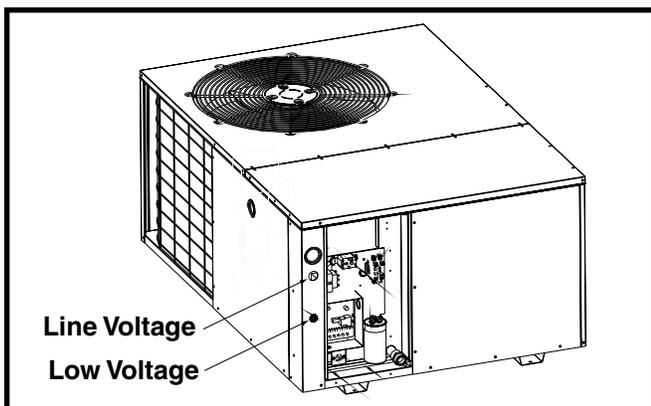

Figure 7. Power Entry
power wiring hole (Figure 7, page 7). Connect L1 & L2 directly to the contactor.
- The low voltage wires must be properly connected. Route 24V control wires through the sealing grommet (Figure 7, page 7) near the power entrance. Recommended wire gauge and wire lengths for typical thermostat connections are listed in Table 2 (page 9).